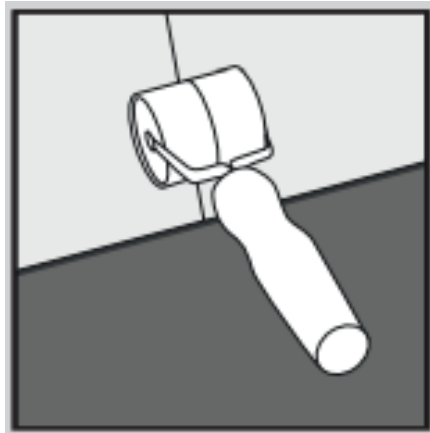
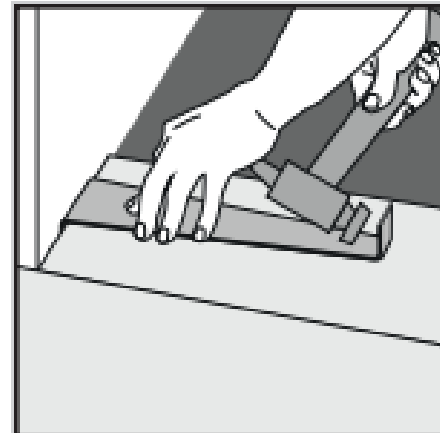

Figure 6
Figure 7
- 5) Continue to install planks across the room until the row is complete using a hand roller to assist (Fig. 6). Only if necessary, use a rubber mallet and an offcut of the product to gently tap the product. A pull bar can be used to pull the product together around the edges of the room (Fig. 7).